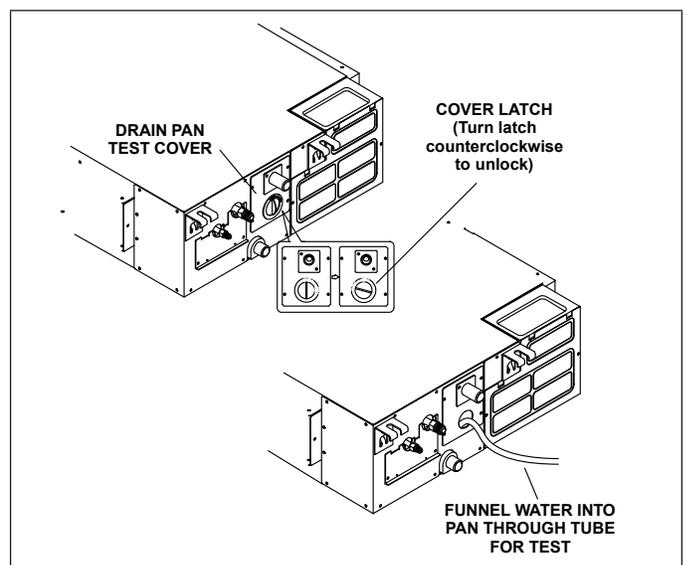

Figure 13. Condensate Drain Test
- If the unit is being installed in an application that includes a sheet rock (plasterboard) ceiling, it is required that an access panel be installed in a suitable location. This will also allow access for future maintenance. Access is required during the start up process to test the condensate disposal system. See "Figure 13. Condensate Drain Test" on page 11.